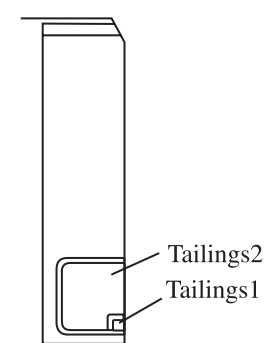
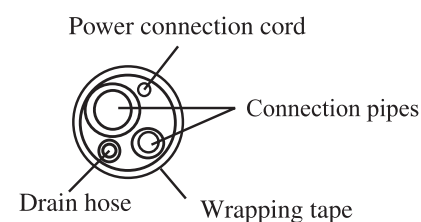

Fig.5
Fig.6
1. When routing the piping and wiring from the left or right side of the indoor unit, cut off the tailings from the chassis in necessary (shown in Fig.5).
- ① Cut off tailing 1 when only power cord is routed.
- ② Cut off tailings 1 and 2 when connect pipe and power cord are routed.
2. Wrap the piping and wiring and pull them through the cut-off tailings hole (shown in Fig. 6).